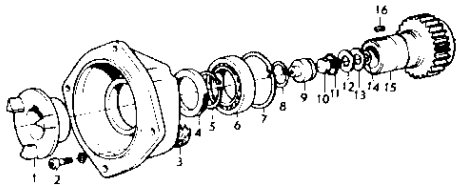

Fig. 2.
1. Remove the screw (10, see Fig. 2). NOTE! Keep an eye on the washers (12 and 13) and the shim (14).
3. Remove the sealing ring (4, Fig. 2).
4. Inspect the bearing (6) and the gear wheel (15). If they have to be replaced, follow work operations 5 to 7. If the drive must be pressed out, the bearing should be replaced.
5. Remove the key (16) and the circlip (5).
7. Remove the circlip (7) and press out the bearing (6) with the help of drift 884265.